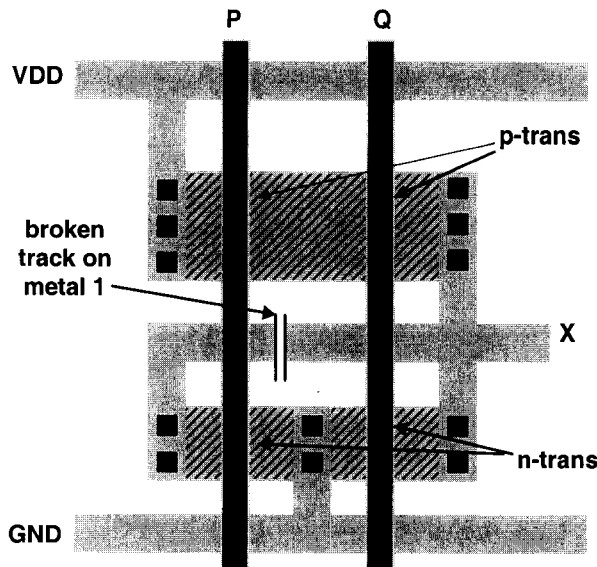

Figure 6.1
b) Figure 6.1 shows the layout of a two-input gate with a manufacturing defect manifested as a break in the signal track as shown. Explain why this fault cannot be represented as a stuck-at fault. Derive the faulty behaviour of this circuit. [6 marks]